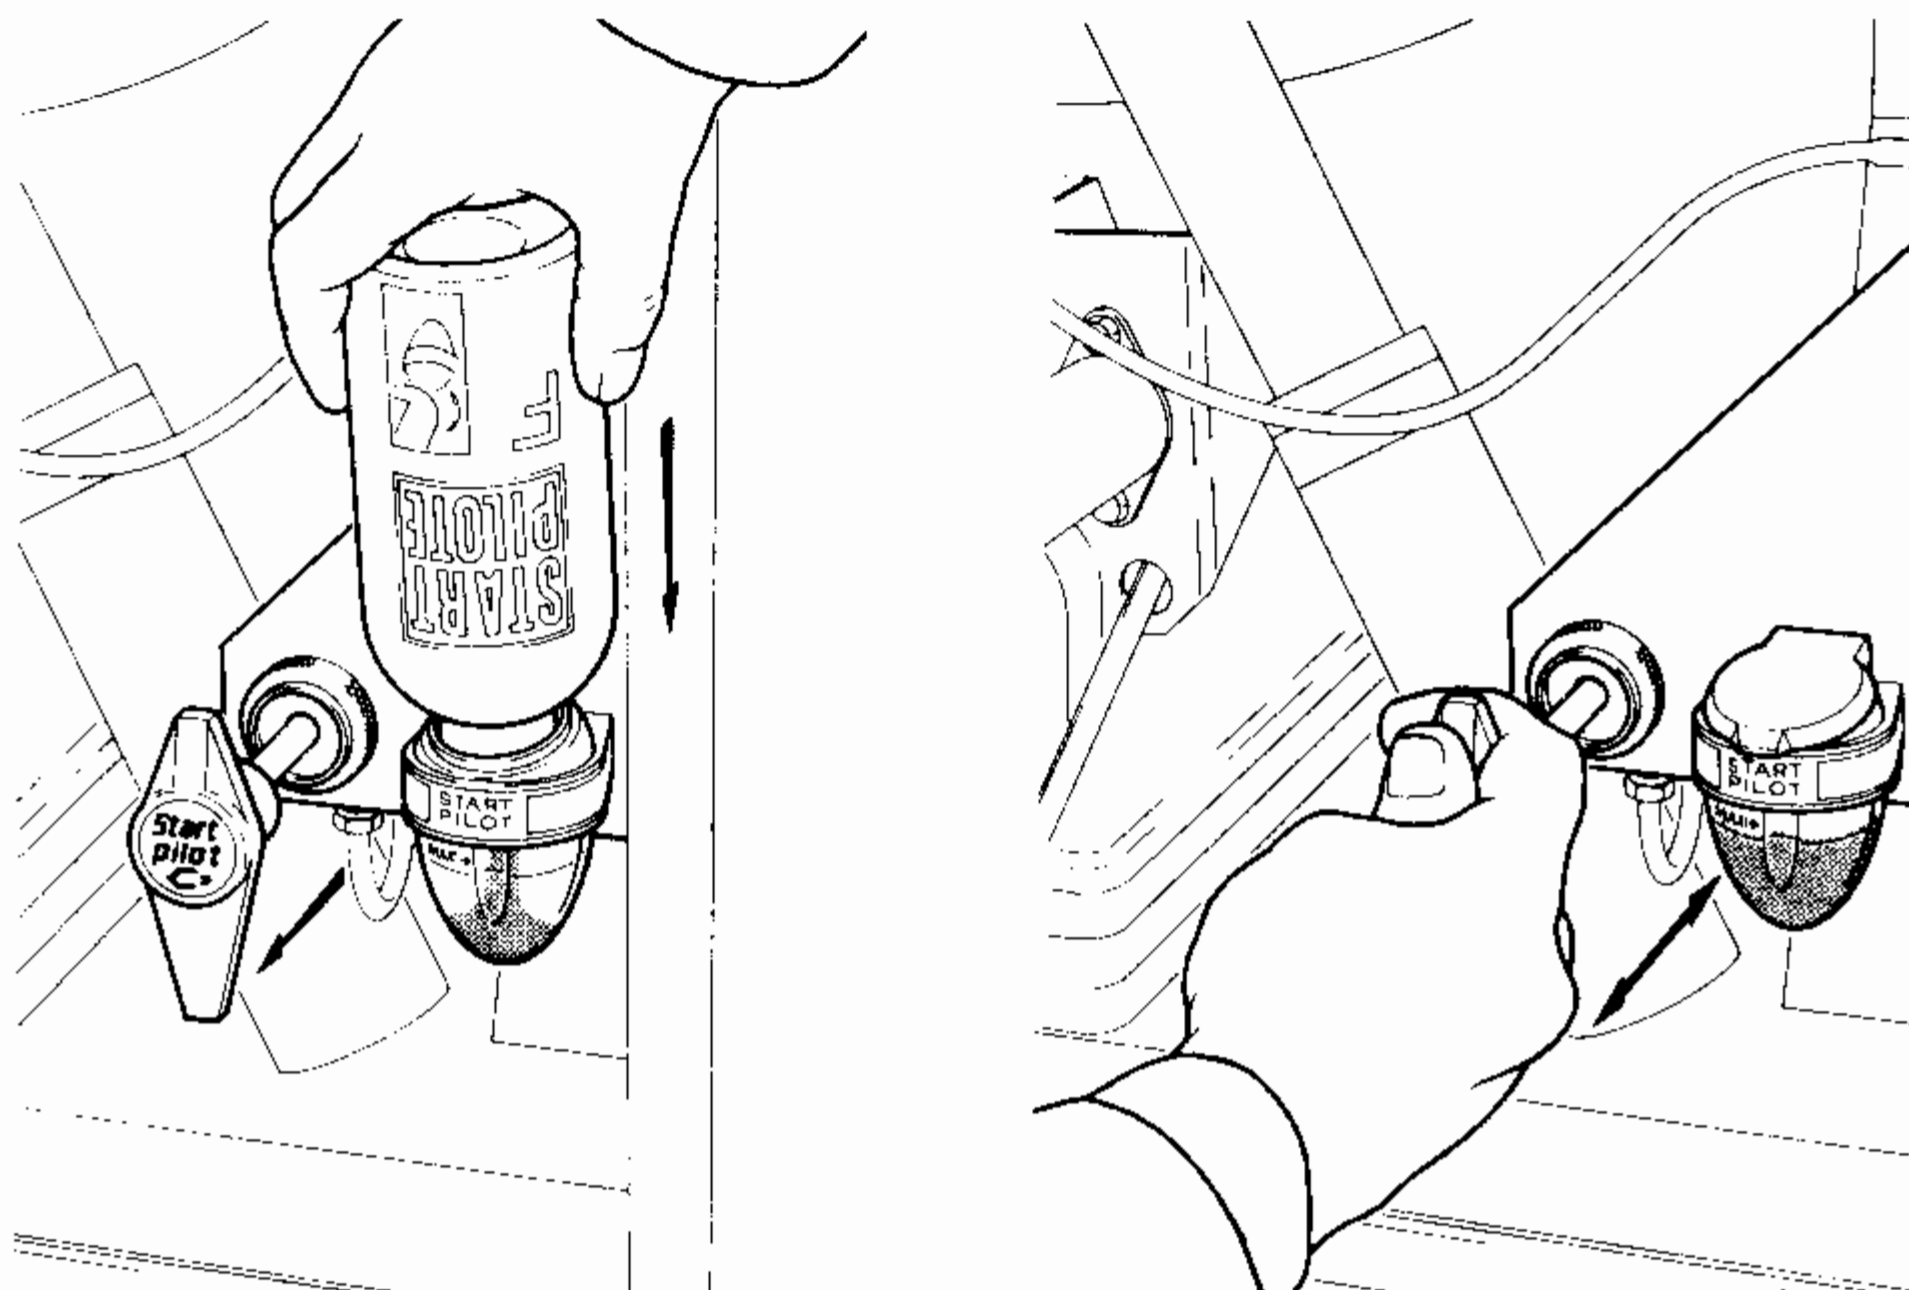

Fig 1 Start pilot operating sequence
Start Pilot priming (Fig 1)
14.1 On receipt of a LOW FUEL warning remove the blanking plugs from the fuel transfer ports (Fig 1) of both generator sets.